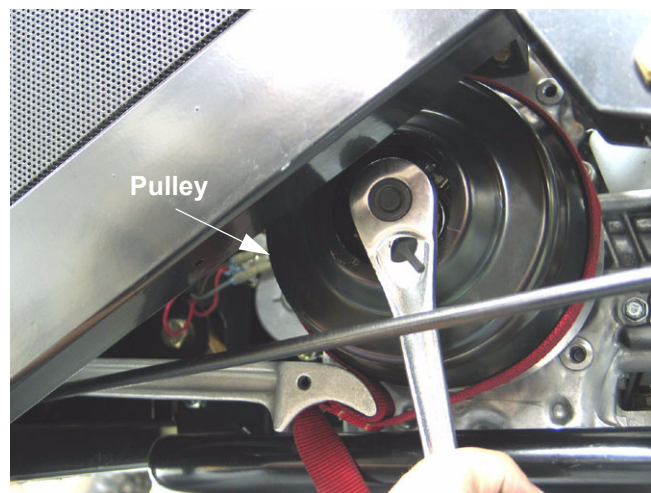

Figure 6.3
- 6.3. Loosen the bolt securing the driving pulley to the engine crankshaft using a 9/16" wrench. See Figure 6.3.